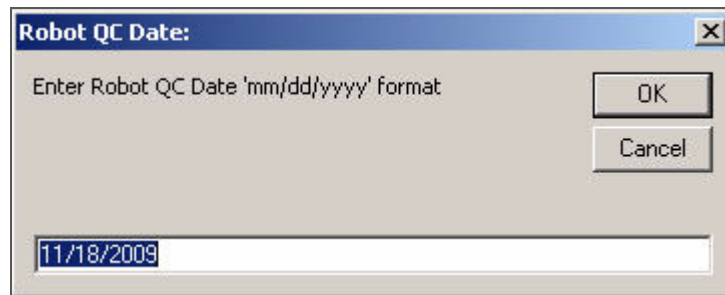

Figure 114 Robot QC Date dialog
4. The Robot QC Date field will appear and be automatically populated with the current date. Revise date as necessary. Click **OK** (Figure 114).